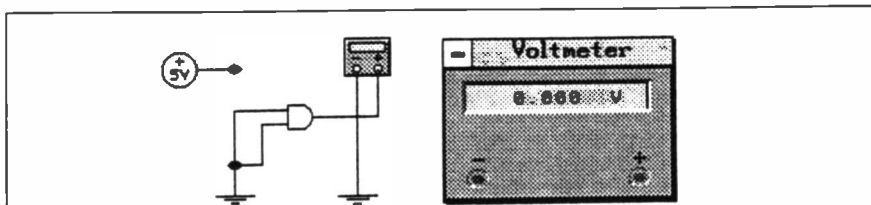
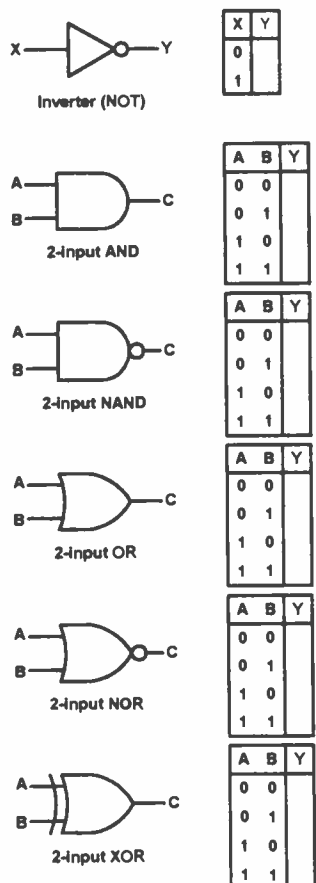
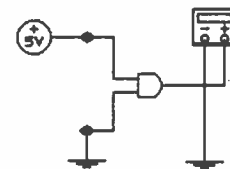

Fig. 7.13 Circuit for Assignment 7.1. Initial input connections (both A and B at logic 0).
Fig. 7.14 Results for Assignment 7.1.
Fig. 7.15 Input connections for Assignment 7.1, A = 0 and B = 1.
1. Select the two-input AND gate and connect the circuit shown in Fig. 7.13. The voltmeter is to be used to measure and display the voltage produced at the output of the gate. The +5V sources and two ground connections are used to produce the input voltages for the gate.
2. With both of the inputs connected to ground (logic 0), as shown in Fig. 7.13, switch on the power to the circuit and note the output voltage indicated by the voltmeter. Convert this output to a logic state (either 0 or 1). Note that the voltmeter will read 0V for logic 0 and +5V for logic 1. Record the indication produced in the appropriate truth table in Fig. 7.14.
3. Repeat step 2 using each of the connections shown in Figs. 7.15, 7.16, and 7.17. For each circuit, record the logical state of the gate's output in the corresponding truth table in Fig. 7.14.